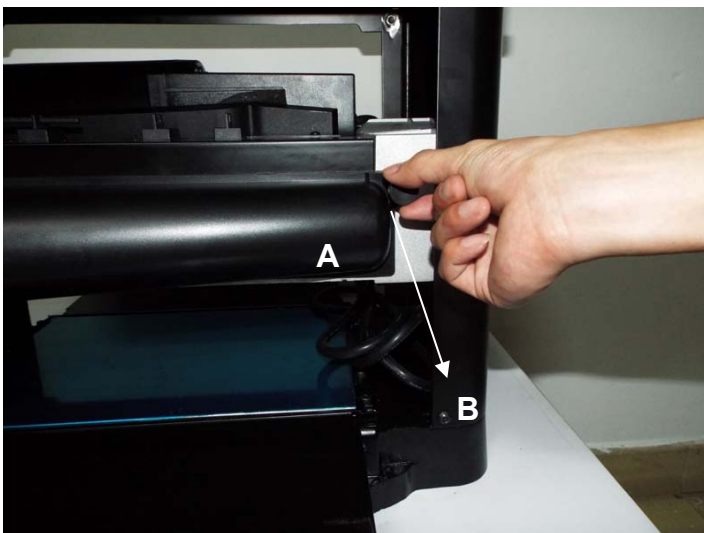

FIG 2
1. Install the dust port (A) in the rear of the planer by using 2 thumb screws (B). SEE FIG 2